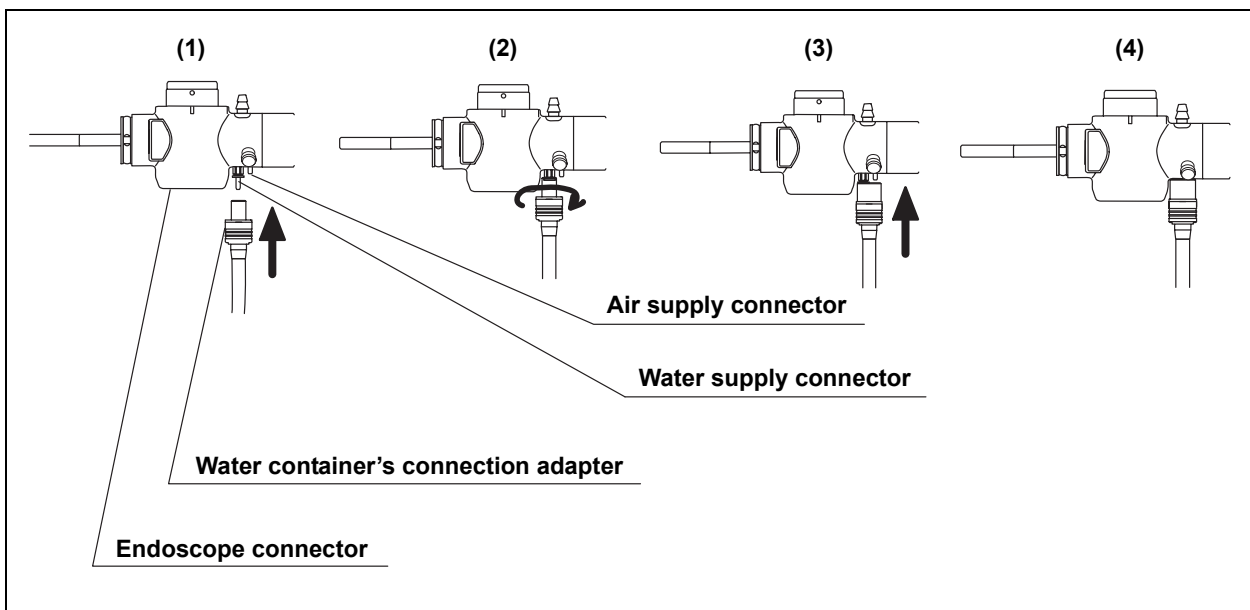

Figure 3.25
3. Connect the water container's connection adapter to the air supply connector and water supply connector (see Figure 3.25).